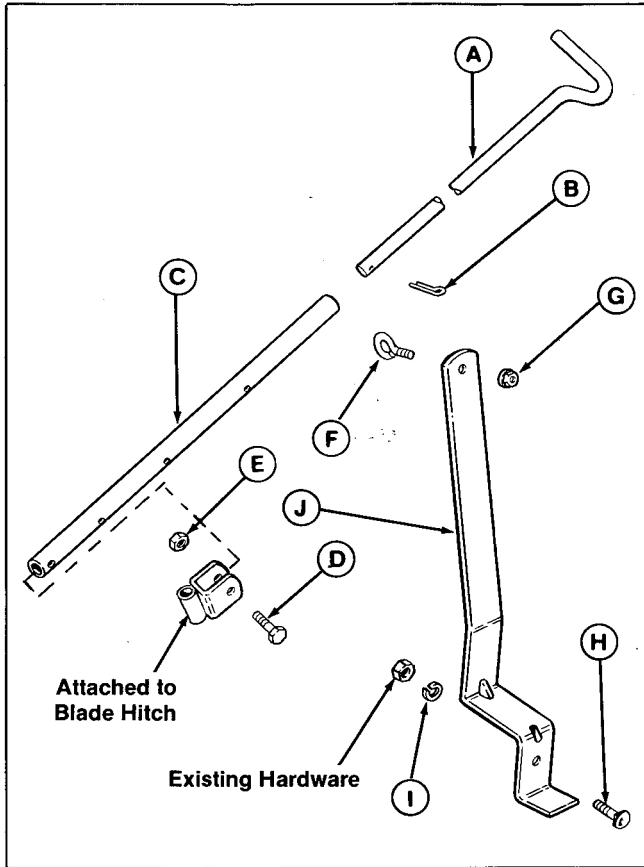
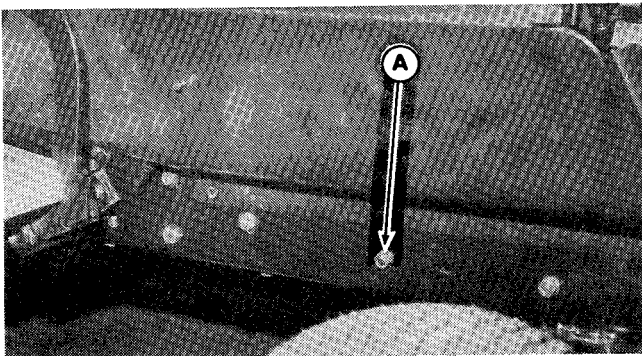

Figure 9
Figure 10
7. Attach the support (J, figure 9) to tractor frame as follows. First remove the existing hardware (A, figure 10) at rear engine base plate. Install the support at this location, using new 3/8-16x1-1/4 carriage bolt, lockwasher, and existing nut.
8. Insert front end of extension (C, figure 9) into fork and attach with capscrew (D) and nut (E). Slip eyebolt (F) onto handle (A). Connect the handle (A)
To change blade angle, rotate the control handle (A, figure 9) change blade angle, then release the handle. Use the hydraulic lift lever to raise for transport or lower for operation.